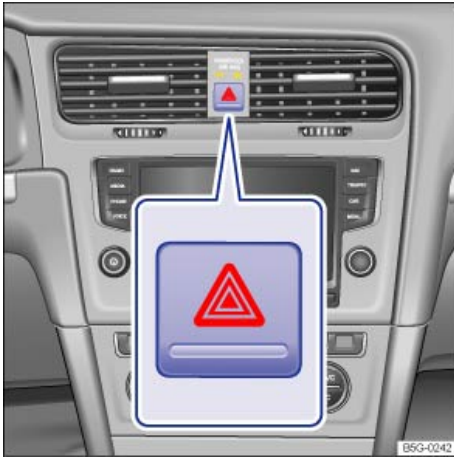

Fig. 165 In the center of the instrument panel: Button for the emergency flashers.
2. Switch on emergency flashers by pressing the  button ⇒ fig. 165.